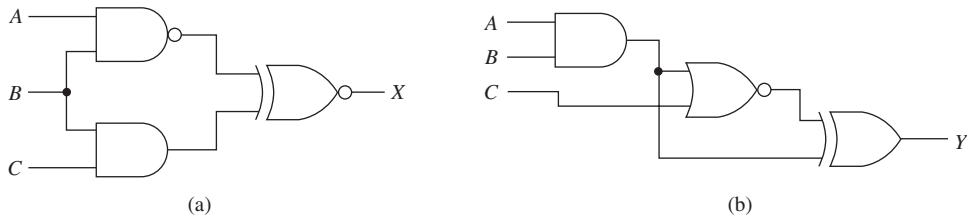

Figure P8
- C** 8. Repeat Problem 7 for the circuits of Figure P8.